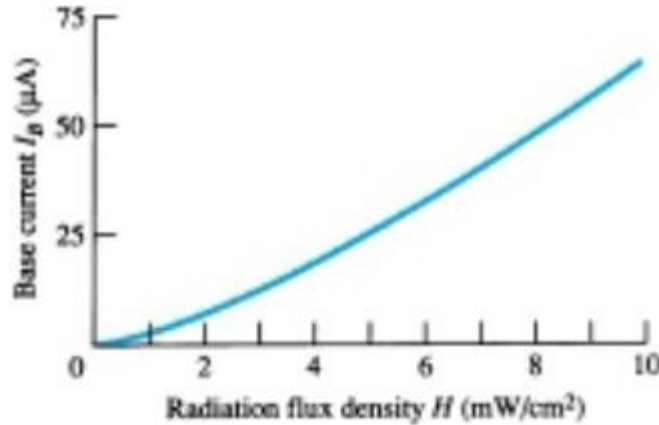

Figure-29 Base current versus flux density
- As expected, an increase in light intensity corresponds with an increase in collector current. To develop a greater degree of familiarity with the light-intensity unit of measurement, milliwatts per square centimeter, a curve of base current versus flux density appears in Figure-29.